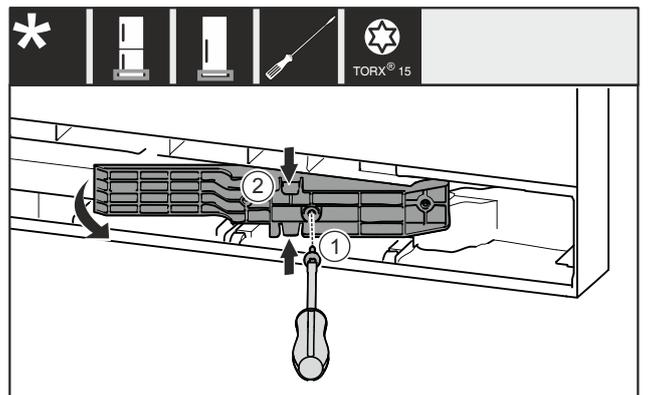

Fig. 20 *
- ▶ Remove the screw Fig. 20 (1).*
- ▶ Gently press the adapter piece Fig. 20 (2) together at the top and bottom and pull it out.*